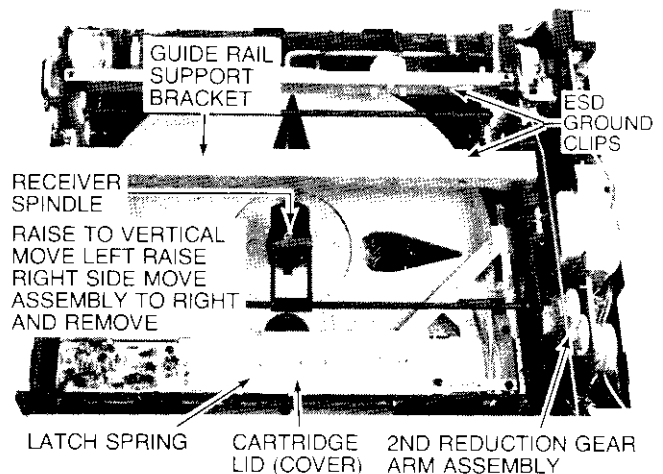
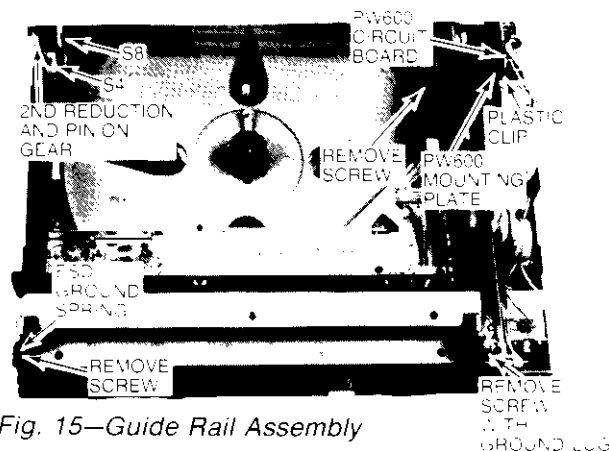

Fig. 14—Stylus Cartridge and Receiver Spindle
Fig. 15—Guide Rail Assembly
1. If cabinet top has been removed remove receiver spindle assembly (Fig. 14), also remove stylus car-
2. Using thumb—rotate 2nd reduction gear (Fig. 14) in counter clockwise direction moving the arm assembly to a point where the stylus cartridge access cover (lid) is accessible.
1. With cabinet top removed—rotate receiver spindle assembly to a vertical position (Fig. 14).
1. Place player in "Load" mode and remove AC plug from AC power source. With cabinet top and front panel removed—remove guide rail assembly front support bracket ESD ground spring Fig. 15, and ground clips from guide rail bracket and pivot support brackets (Fig. 14).
12. Remove three (3) pozi-drive (+ head) screws (Fig. 15).